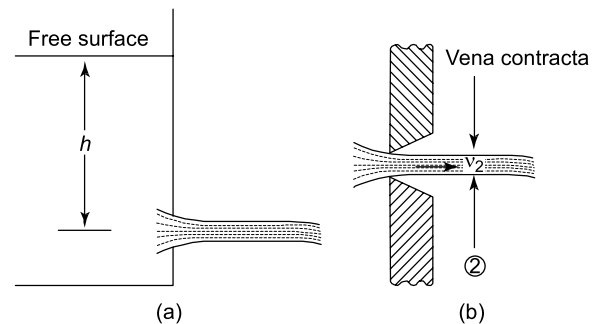

Figure 23.13
Consider the flow of a liquid through a small orifice, as shown in Figures 23.13(a) and (b), where it can be seen that the vena contracta (VC) lies just to the right of the orifice. The cross-sectional area of the fluid is the smallest here and its decrease in area from the orifice is measured by the coefficient of contraction ( $C_c$ ).
- If in Figure 23.13,  $h = 6$  m,  $C_c = 0.8$ ,  $C_v = 0.7$ , determine the values of  $C_d$  and actual  $v_2$ .
- If in Figure 23.13,  $h = 10$  m,  $C_c = 0.75$ ,  $C_v = 0.65$ , and the cross-sectional area is  $1.5 \times 10^{-3}$  m2, determine the discharge and the actual velocity  $v_2$ .